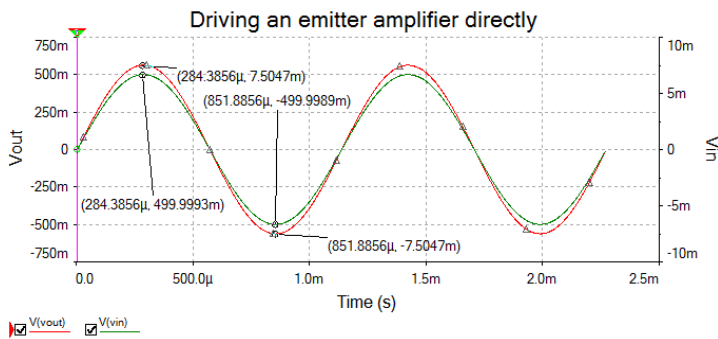

Figure 3: Simulation output
- Simulate about 2 cycles of the input/output wave form. Display the input signal on the left Y axis and the outpour on the right Y axis. Label the left axis Vin and the right axis Vout and change the title. Use the cursers to measure and label the maximum and minimum values for Vin and Vout. Your simulation should be similar to the one in Figure 3 below.